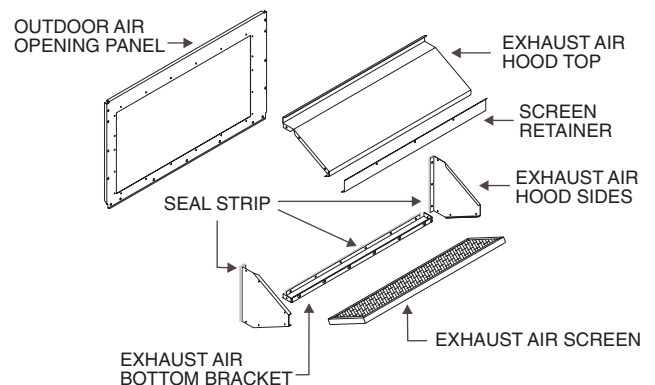

Fig. 31 — Exhaust Air Hood Assembly
2. To assemble the hood assembly remove the EconoMi\$er hood from its packaging. Locate the outdoor air opening panel. See Fig. 31.
3. Install the ¾ x ¾ in. seal strip on the exhaust air hood top panel. Install the ⅛ x ⅞ in. seal strip on the exhaust air hood side panels and bottom brackets. Assemble the exhaust air hood to the outdoor air opening panel as shown in Fig. 31, using the screws provided. *Do not attach hood assembly to unit at this time.*